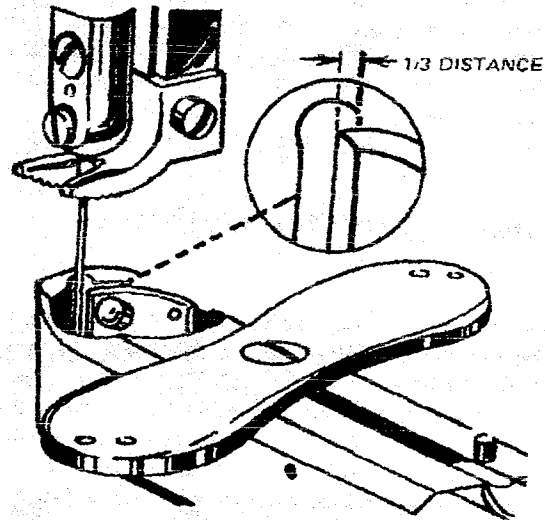

Fig. 36
To time the shuttle, turn eccentric stud at screwdriver hole until the leading edge of the shuttle carrier moves at each oscillation to a position approximately one-third the distance across the needle slot below the face plate as shown in Fig. 36.
**NOTE:** Shuttle is removed in Fig. 36 to illustrate correct timing of leading edge of shuttle carrier.